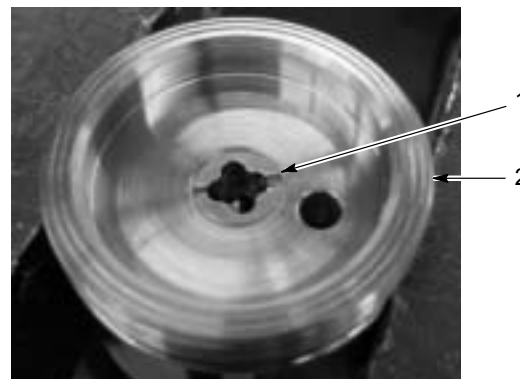

Figure 3 Body and Seat Retainer
7. See Figure 3. Unscrew the seat retainer from the body with a large screwdriver, turning the seat retainer counterclockwise.